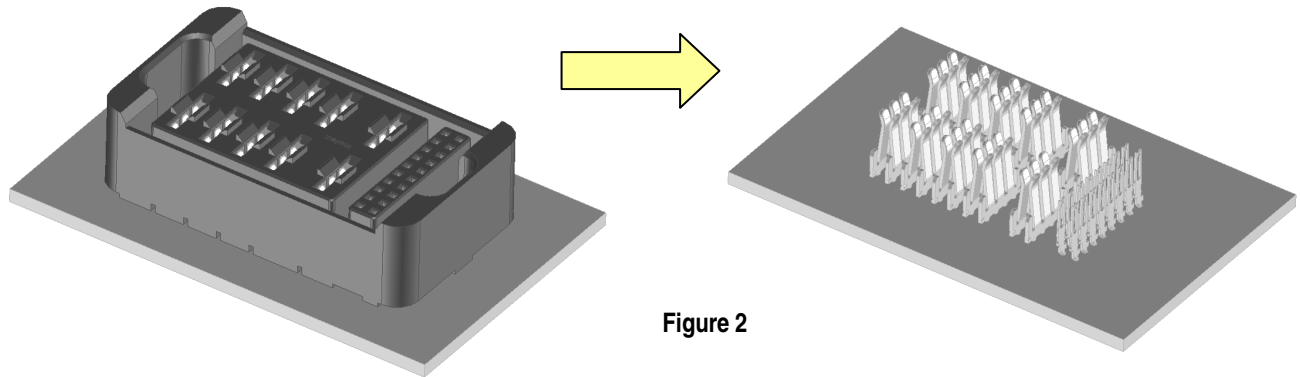

Figure 2
1. Remove the receptacle housing using Molex tool 62100-6400. The terminals will be exposed as shown in Figure 2.